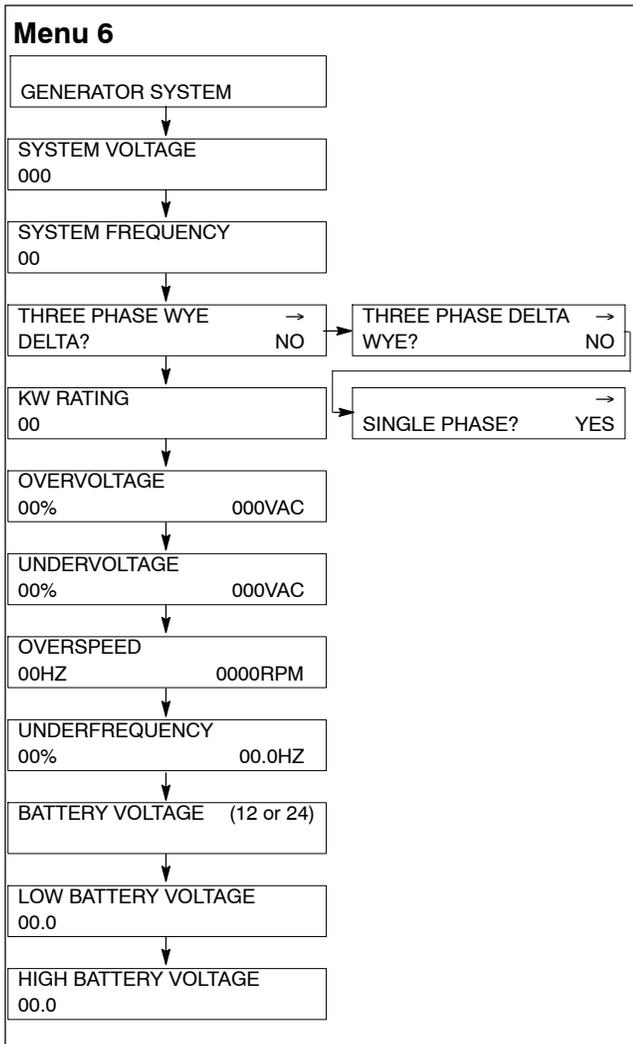

Figure 4 Menu 6, Generator System
- 1.2 Go to Menu 6, Generator System and press the down arrow key to System Voltage. See Figure 4. Record all data from each display.
11.3 Use the numeric and/or YES/NO keys and then press the Enter key to add the data to each corresponding display shown in Figure 4. Press the Down Arrow key to access the next display. Use the Right Arrow key for the three-phase/single-phase entry.